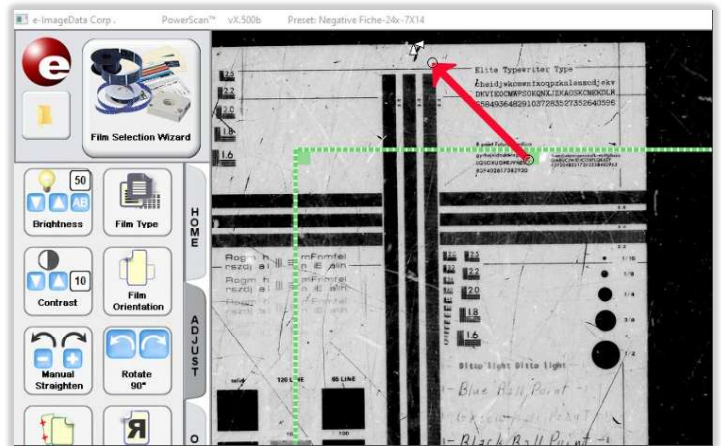

Figure 82
- v. Carefully move the green crop box around the last image. *Figure 82*